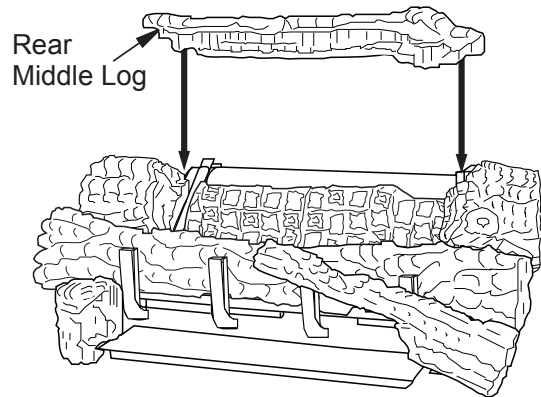

Figure 33 - Installing Rear Middle Log
- The rear middle log should fit between the ramp log and the rear burner. The left and right middle logs have recessed areas for the rear middle log to sit into (see **Figure 33**). Be careful not to push the rear burner out of position while installing this log.